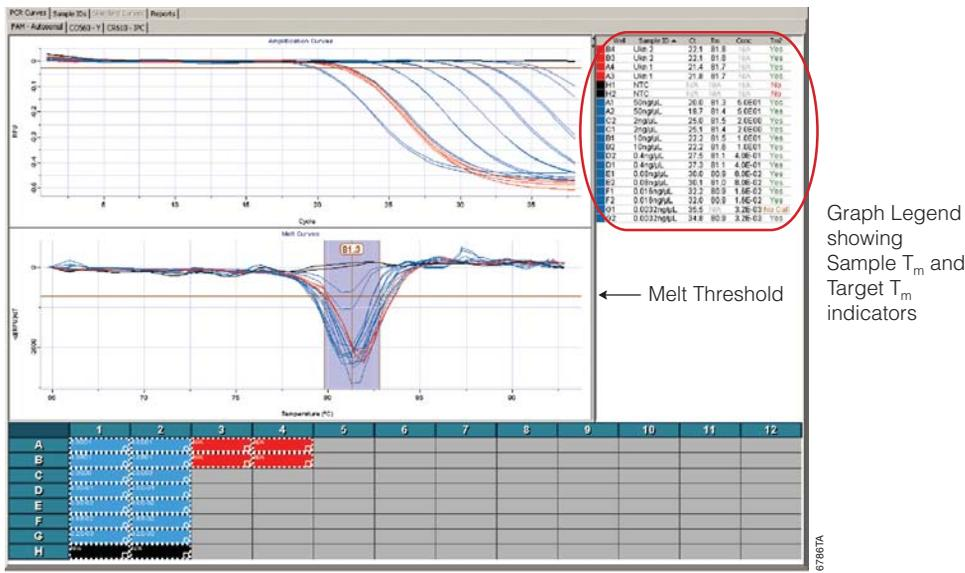

Figure 27. The target melt temperature is displayed in a table to the right of the graph.
2. Select wells containing the DNA standards. The  $T_m$  for each selected sample will be displayed in a table to the right of the graph (Figure 27). The expected target melt temperature and associated target melt temperature range for all samples in this dye channel should be set based on the  $T_m$  of these standards.